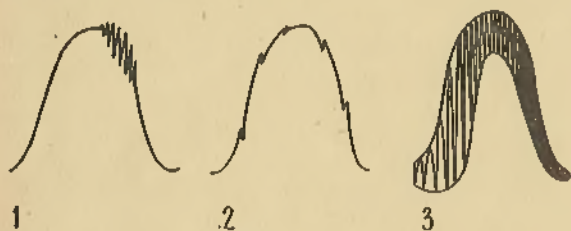

Fig. 7.
Generally speaking, where superhets. are concerned, the A.V.C. should be made inoperative for alignment work, and for both types of receivers the input signal should be kept as low as possible to avoid any chance of overloading any of the stages. We therefore make use of the oscilloscope "Y" amplifier for the regulation of picture size. During the alignment work, we may find that at one step a jiggle or "squeg" will appear on the curve as shown in Fig. 7 (1 and 2); this will be due to parasitic oscillation at (1) and I.F. pick-up at (2), and the cause of either can then be hunted for by watching the effect of our efforts on the screen.